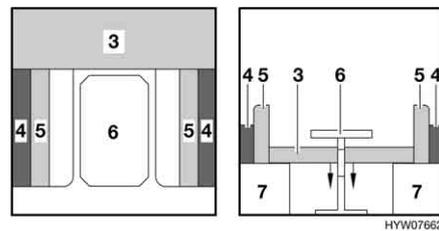

Fig. 93 During conversion
- Place the seat cushions (Fig. 93,5) in an upright position.
- Convert the table (Fig. 93,6) to a bed foundation (see section 6.12).